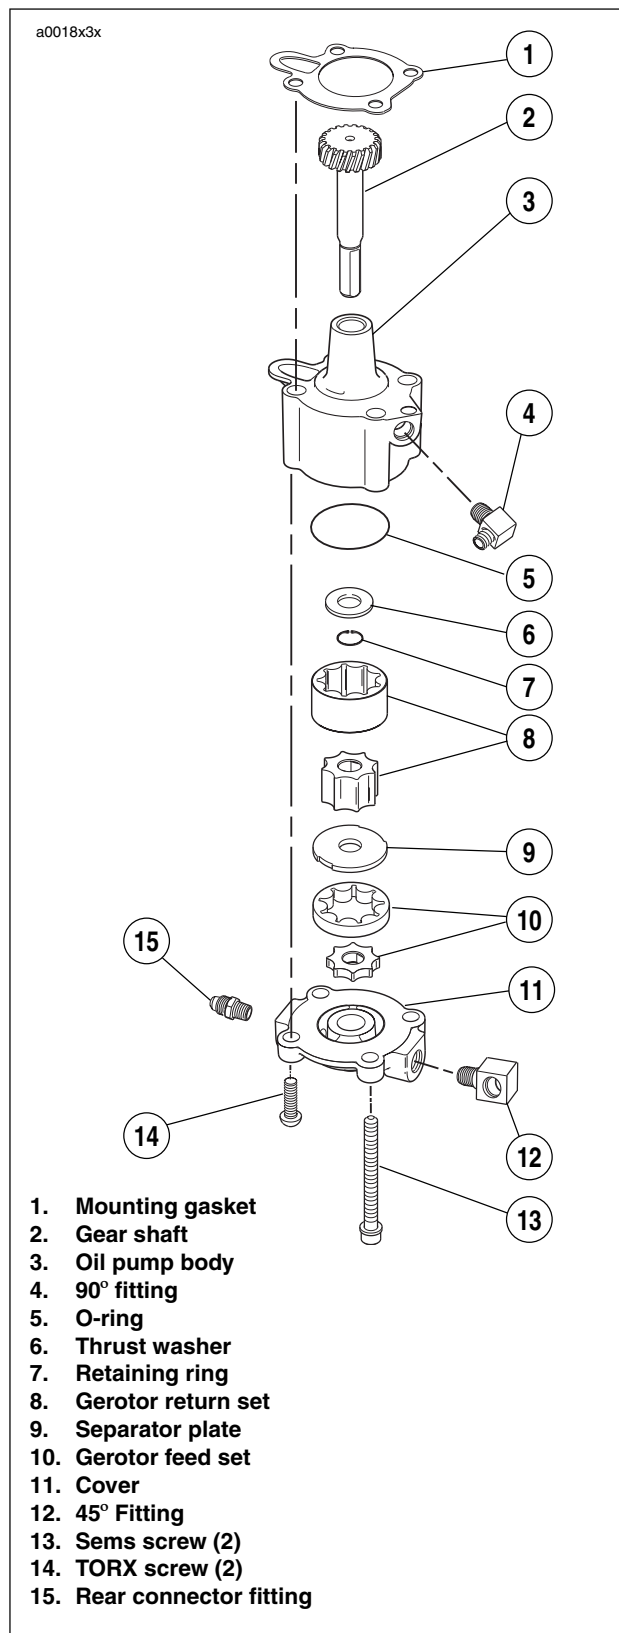

Figure 3-116. Oil Pump
See Figure 3-116. The oil pump consists of two gerotor gear sets, feed and return, housed in one pump body. The feed set distributes oil to the engine, the scavenge set returns oil to the tank/frame reservoir.
3. See Figure 3-116. Check gear shaft teeth for damage or wear. Replace if necessary.
1. See Figure 3-116. Install gear shaft through body. Position thrust washer over end of shaft. Install **new** retaining ring into groove in shaft.
6. See Figure 3-116. Place gerotor feed set over gear shaft.